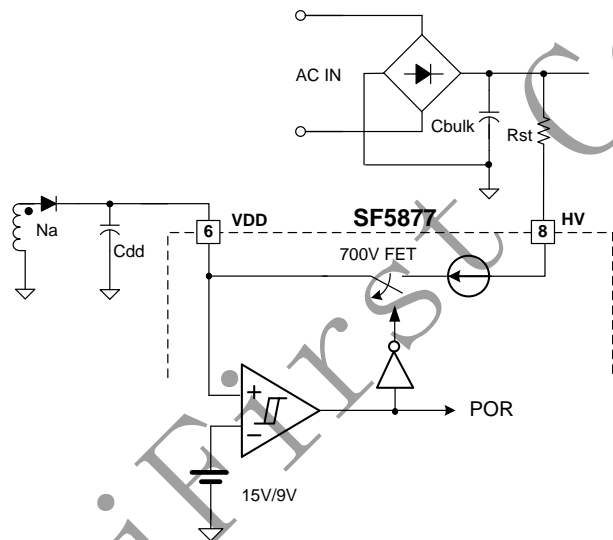

Fig.1
SF5877 Integrates proprietary HV-mW™ technology to achieve less than 50mW standby power. The core of HV-mW™ technology is related a built-in 700V startup circuit and standby control. Fig.1 shows the high voltage (HV) startup circuit for SF5877 applications. The HV pin is connected to the line input or bulk capacitor through a resistor. During startup, the internal startup circuit is enabled and a HV current source charges the VDD hold up capacitor Cdd through Rst. When VDD reaches UVLO turn-on voltage of 15V(typical), SF5877 begins switching and the IC current consumed increased to 2mA (typical). The hold-up capacitor Cdd continues to supply VDD before the energy can be delivered from auxiliary winding Na. During this process, VDD must not drop below UVLO turn-off voltage (typical 9V).